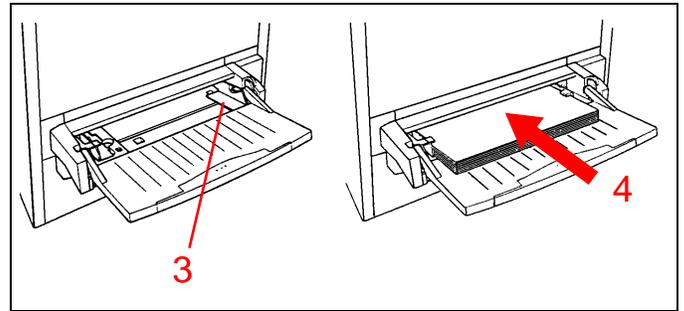

Figure 5
3. See Figure 5. Set the paper guide to the width of the paper being loaded.